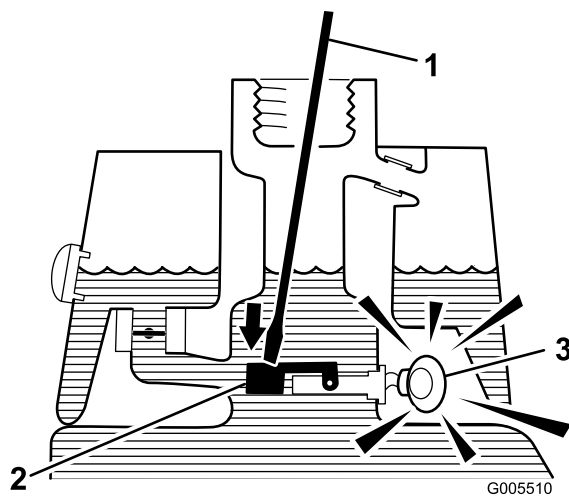

Figure 30
3. Insert a clean rod or screwdriver into the tank neck and gently push down on the switch float (Figure 30). The alarm should sound after the one-second delay.